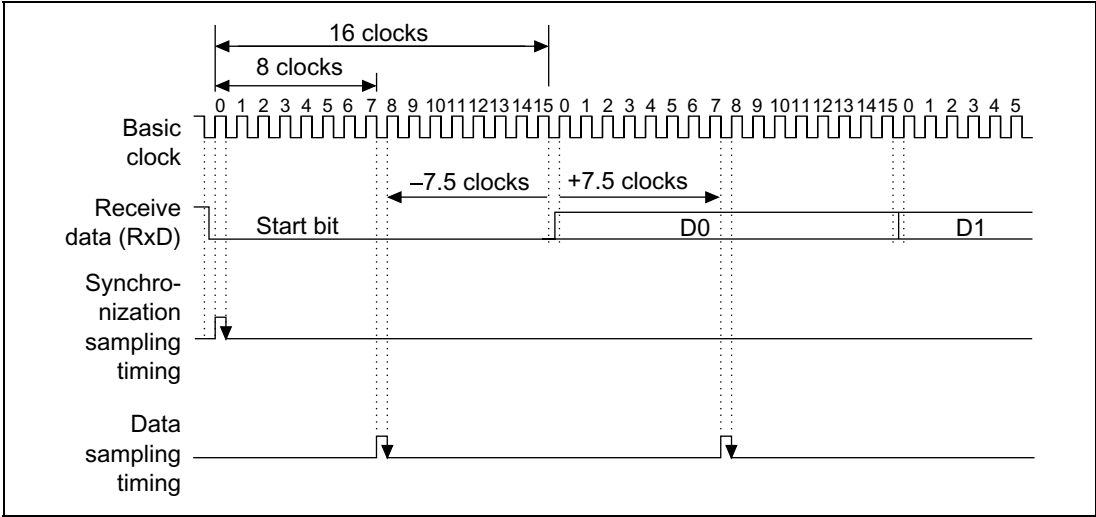

**Figure 17.24 Receive Data Sampling Timing in Asynchronous Mode**
**Receive Data Sampling Timing and Reception Margin in the Asynchronous Mode:** In the asynchronous mode, the SCI operates on a base clock of 16 times the transfer rate frequency. In receiving, the SCI synchronizes internally with the falling edge of the start bit, which it samples on the base clock. Receive data is latched on the rising edge of the eighth base clock pulse (figure 17.24).